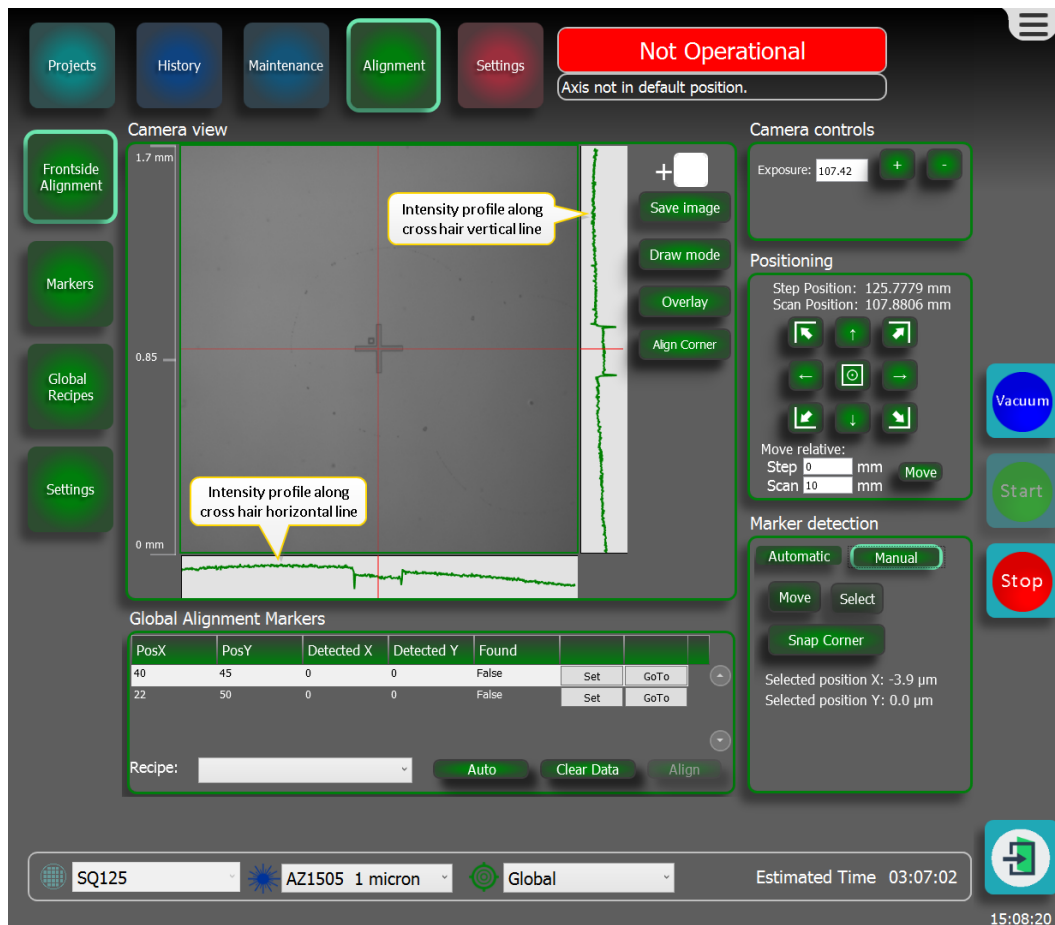

Figure 3-119 Doing manual marker detection
1. At **Marker detection**, select **Manual**, see **Figure 3-119 on the facing page**.